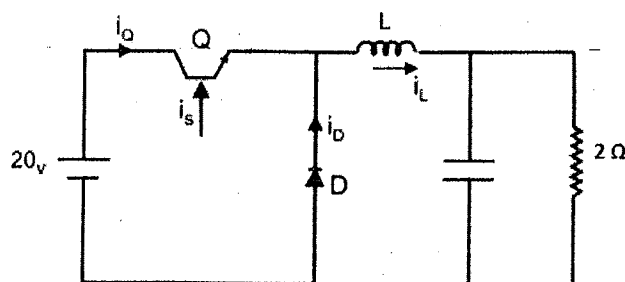

Figure 01
- c. The diode shown in the following circuit in figure 01 has following ratings. Calculate the reverse recovery current of the diode and hence calculate the peak repetitive forward current rating of the Q transistor.